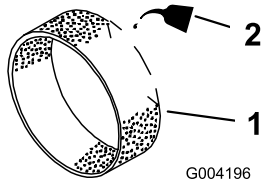

Figure 20
3. Put one or two ounces of oil on the pre-filter (Figure 20).